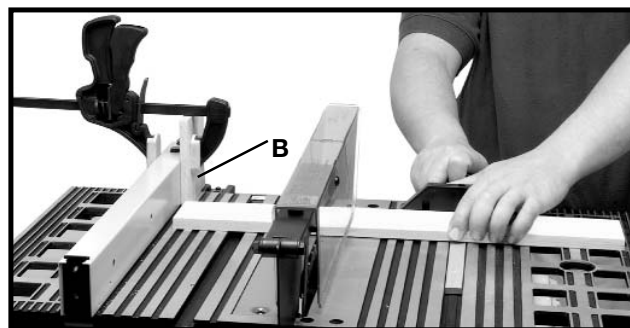

Fig. 39B
When cross-cutting a number of pieces to the same length, a block of wood (B) Fig. 39B can be clamped to the fence and used as a cut-off gauge as shown in Fig. 39B. It is important that this block of wood always be positioned in front of the saw blade as shown. Once the cut-off length is determined, secure the fence and use the miter gauge to feed the work into the cut. This block of wood allows the cut-off piece to move freely along the table surface without binding between the fence and the saw blade, thereby lessening the possibility of kickback and injury to the operator.
⚠ CAUTION WHEN USING THE BLOCK (B) FIG. 39B, AS A CUT-OFF GAUGE, IT IS VERY IMPORTANT THAT THE REAR END OF THE BLOCK BE POSITIONED SO THE WORK PIECE IS CLEAR OF THE BLOCK BEFORE IT CONTACTS THE BLADE.